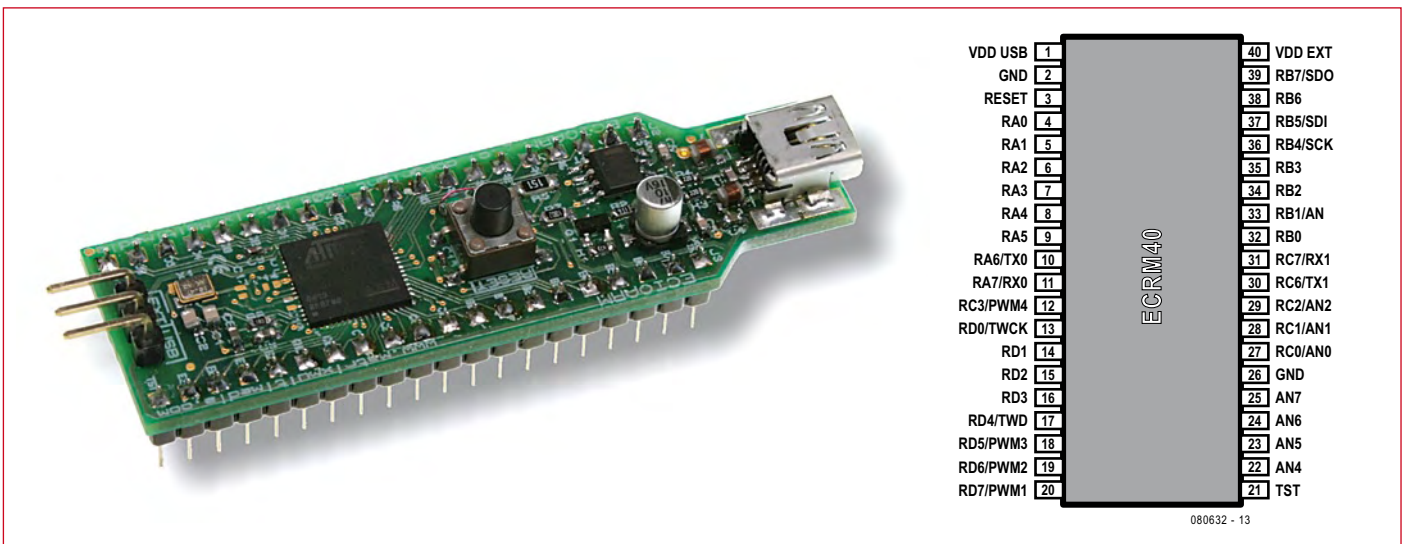

Figure 3. The ECIO ARM module (left) and its pin description (right) – free with Flowcode for ARM.
2. ECRM40. Also available from the Elektor Shop is a 40-pin 0.6-inch version of the AT91 which fits into a standard 40-pin header. This one's called ECRM40 and pictured in **Figure 3**. The order code is **080632-91**. To help you get started we are giving this away free with every Professional version of Flowcode for ARM.